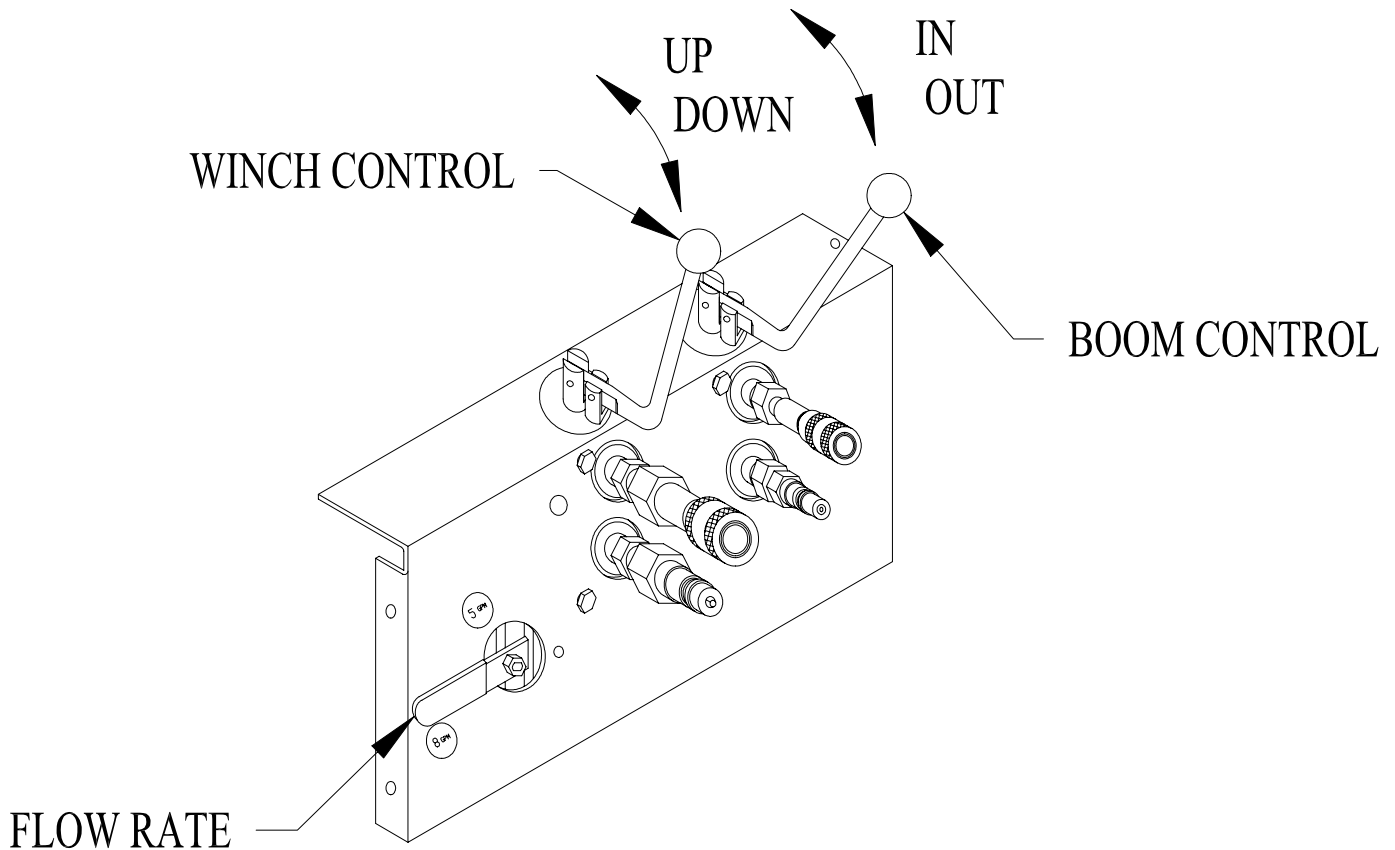

Figure 4-1.
1. The 5/8 lever provides an output of either 5 or 8 GPM. See Figure 4-1. This selection allows the hydraulic winch to operate at two different speed ranges. Within these ranges, engine speed can be varied to further adjust hoisting speeds. Speeds vary to about 165 fpm with a single part of line. A speed of up to 80 fpm occurs when using the HS2000 with two parts of line. As wire rope is wound onto the drum, the effective drum diameter increases which increases lifting speed and decreases lifting capacity.
5. Pull winch control lever up to raise a load and down to lower a load. See Figure 4-1. Never allow anybody to ride on the hoist. Make a few “dry runs” (without load, but **with** ballast) to become familiar with operation, controls, and HydraPak, and to test hoisting clearance. Always maintain 10-20 pounds of wire rope tension with a cable weight. Do NOT attempt to make any equipment adjustments during operation.
7. Use the boom control lever shown in Figure 4-1 to swing the boom 135° to load or unload material on the roof deck where you are working.